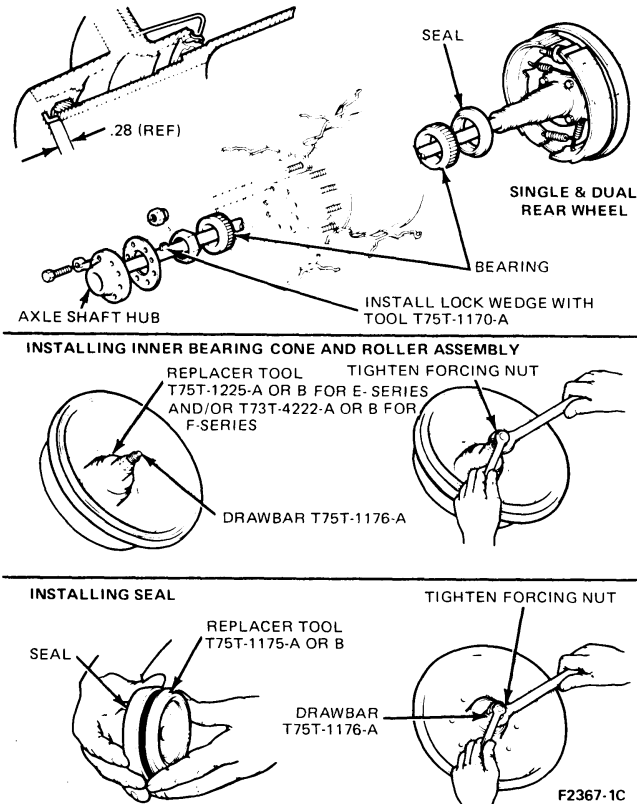

FIG. 5 Installation of Rear Wheel Bearings and Seal
12. If the bearing cups are to be replaced, drive them out with a brass drift. Install the new cups with Tool T73T-4222-A or B for F-Series vehicles and T75T-1225-A or B for E-Series vehicles (Fig. 5).
15. Place the inner bearing cone and roller assembly in the wheel hub with tool T75T-1225-A or B (Fig. 5). Install a new hub inner seal with tool T75T-1175-A or B.